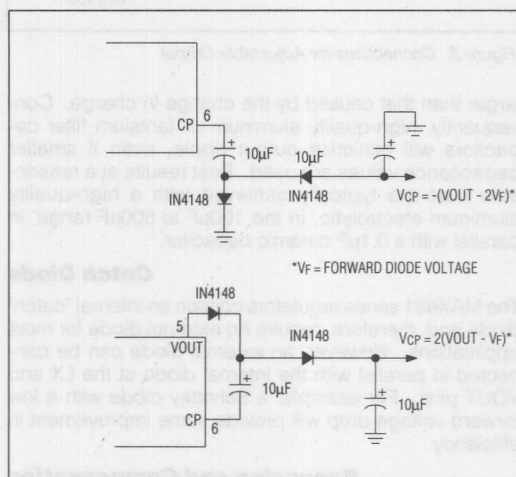

Figure 3. Using the Charge Pump (CP) output as a voltage inverter and/or doubler. Both circuits can be used together.
The Charge Pump (CP) output is a low impedance buffer which swings from ground to VOUT at the oscillator frequency. Two external capacitors and diodes can be connected, as shown in Figure 3, to generate a negative output voltage of $-(VOUT - 1.2V)$ or a positive output of $2(VOUT - 1.2V)$. 1.2V is the forward drop of 2 silicon diodes. Both circuits can be used at once if desired. With 10μF capacitors, the output impedance of V_{CP} is about 30Ω. If space is critical, the capacitors can be reduced, but with a slight increase in output impedance and V_{CP} output ripple.